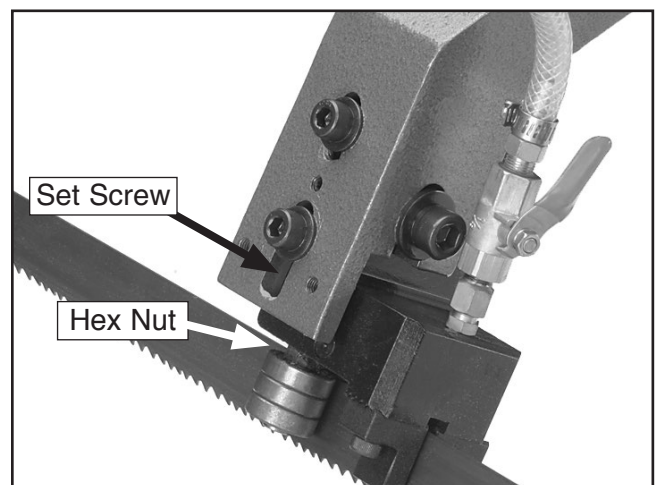

Figure 46. More blade guide adjustments.
6. Loosen the set screw in **Figure 46** to allow the eccentric bushing to turn.